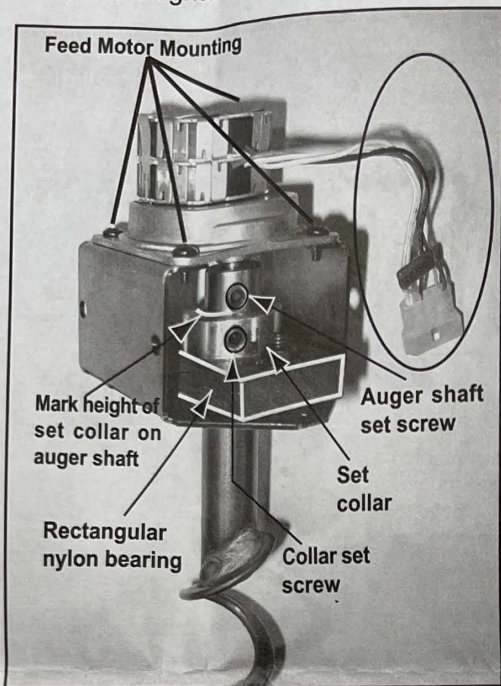

Figure 4
- Loosen set screw that secures auger shaft to feed motor shaft. **Figure 4.**
- First mark the height of the set collar on the auger shaft with a black marker for future reference. **Figure 4.** **Remove** set screw securing auger shaft to feed motor shaft. Only **loosen** set screw in set collar and ensure collar will slide on shaft.
- Align set collar with reference mark made previously on auger shaft. **Figure 4.** Tighten set screw in collar. Align auger shaft set screw with flat side of feed motor shaft. Hold set collar down, away from motor and tighten auger shaft set screw.
- Attach jumper wire (**see page 4**) if spade connectors are coming from wire harness on feed motor. Molex connector does not require a jumper. **Figure 4.**
- Attach Molex or spade connectors to the feed motor wire harness, using jumper if needed. **Figure 4.**